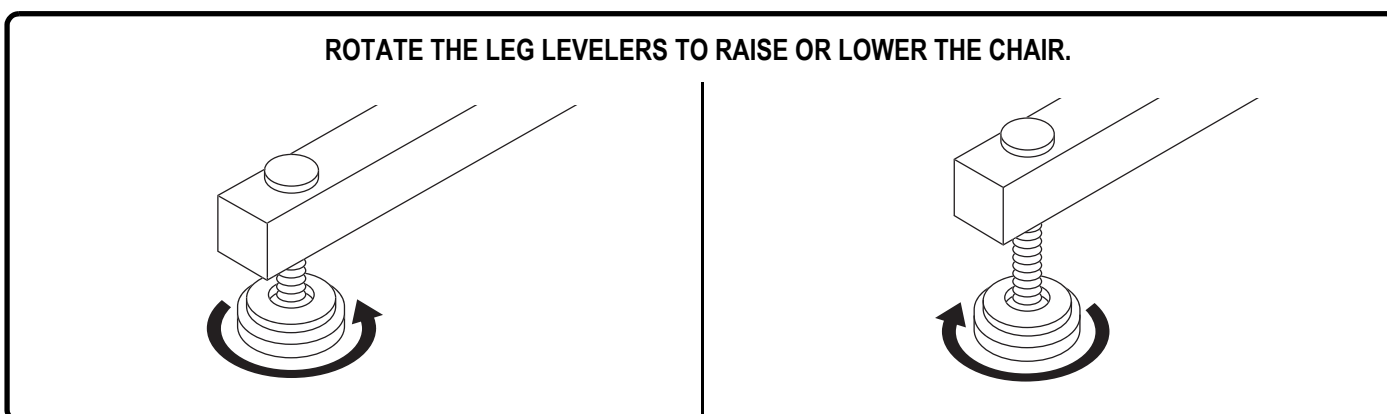

Figure 3.3 Leg Levelers
Leg Levelers: Manually rotate up or down in order to stabilize the chair before use (Fig. 3.3).
2. Adjust the leg levelers to stabilize the lift chair (**Fig. 3.3**).